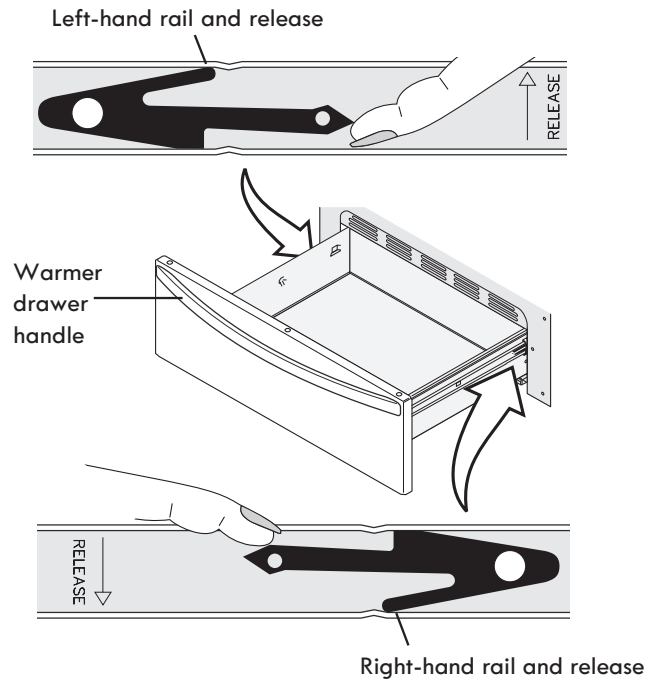

Figure 48: Warmer drawer releases
3. On left warmer drawer rail, locate black release lever and press up with finger while pulling out slightly on the oven drawer handle. On right warmer drawer rail, locate black release lever and press down with finger while pulling out slightly on the warmer drawer handle (Figure 48).